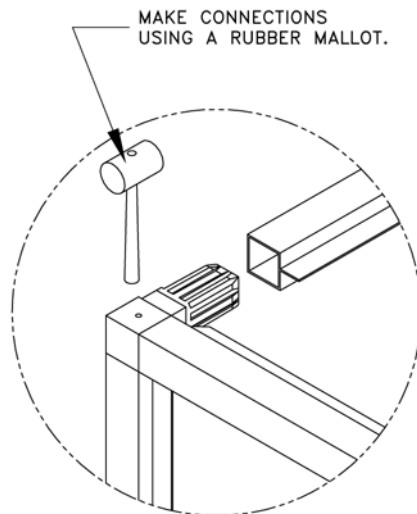

Fig. 10 Faraday Enclosure installation
3. Using a rubber mallet, hammer the front, rear tube onto the black corner connectors. (As show on Fig. 10).